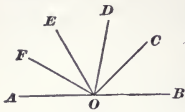

FIG. 14.
33. From the foregoing it will be evident that if a number of straight lines on the same side of a given straight line meet at the same point, the sum of all the angles formed is equal to two right angles, or 180° . Thus, in Fig. 14, angles $COB + DOC + EOD + FOE + AOF = 2$ right angles, or 180° .